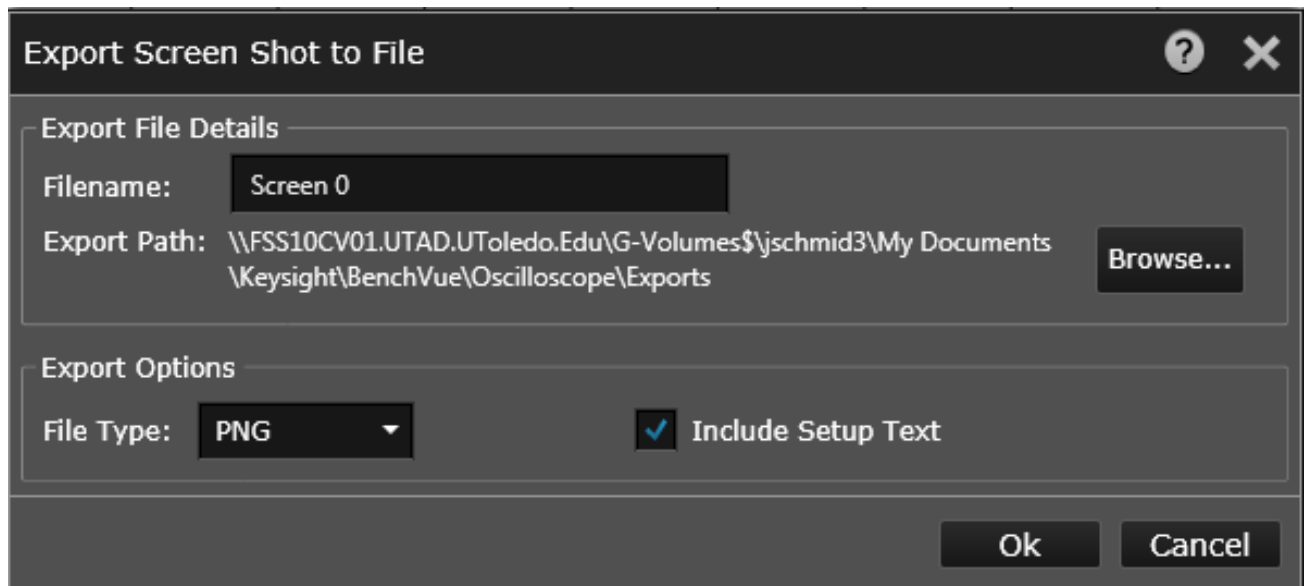

Figure 13. Saving Menu
6. Save the file as the desired name and to the location of choice. Refer to Figure 13.